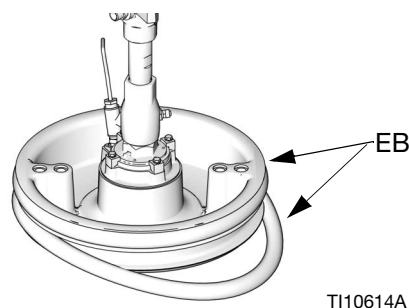

FIG. 35
1. Using a wooden or plastic tool to prevent damage to the Wiper (EB), clean all material from the seal grooves.
2. *Working from the bottom*, angle one Wiper (EB) over the back of the Platen (AD). See FIG. 35.
3. Insert the Wiper (EB) in the top groove and run the front of the Wiper into the groove.
4. If using a 55 gallon Platen, insert the second Wiper (EB) in the lower groove and run the front of the Wiper into the groove.